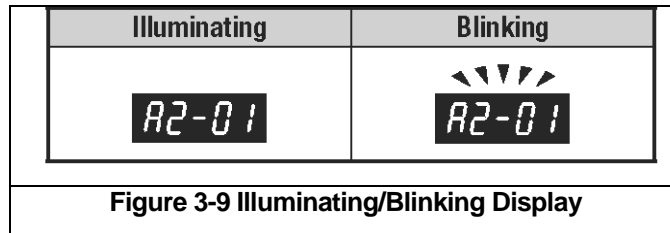

**Figure 3-8 VFD Keypad/Display Interface**
- 3.6.4 The VFD is controlled by a Keypad/Display Interface. Refer to Figure 3-8 for Keypad/Display Interface functions and descriptions.